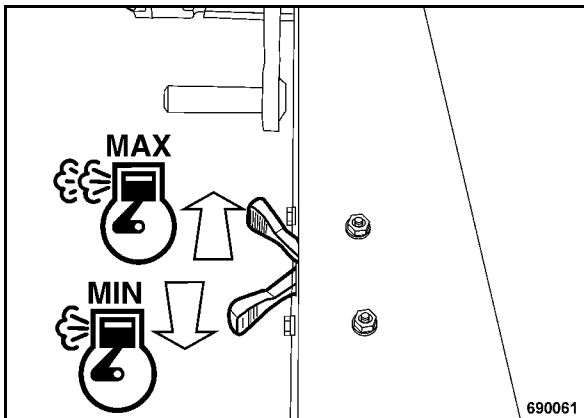

Fig. 27
- Keep moving throttle lever (Fig. 27) between "MIN" and "MAX" throttle position.